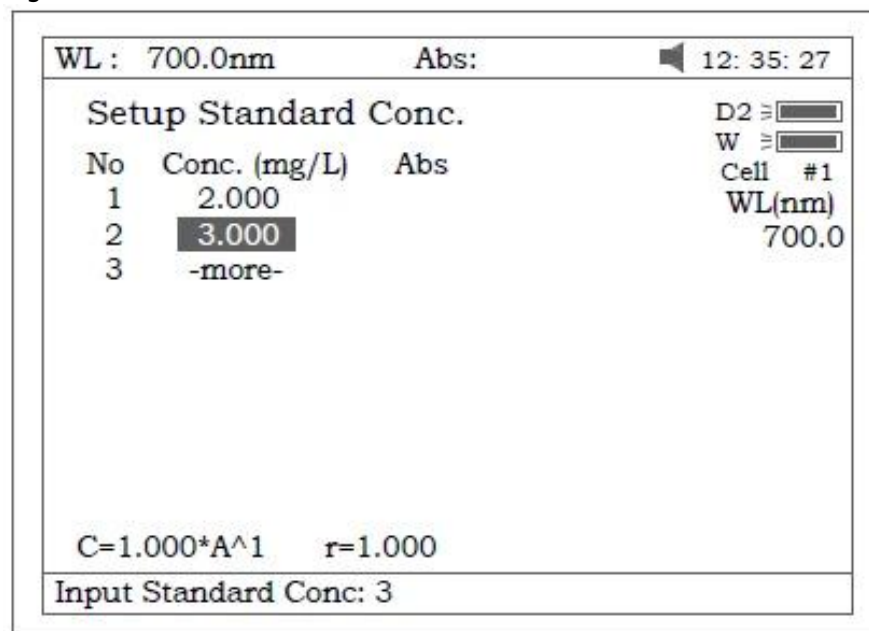

Figure 31
3.3.1 Enter standard concentrations of samples by pressing the Numeric keypad followed by **【ENTER】** . Press **【Λ】** or **【v】** to modify the inputted data (Fig31).